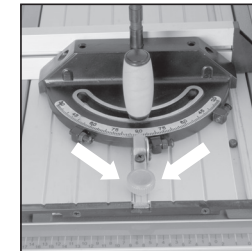

FIG. 18
**Note:** We recommend that the Mitre Gauge Slide Locking screw (Fig. 18) be removed and stored safely off the machine for future use when the Mitre Gauge is being used with the sliding carriage in the 'locked' position.